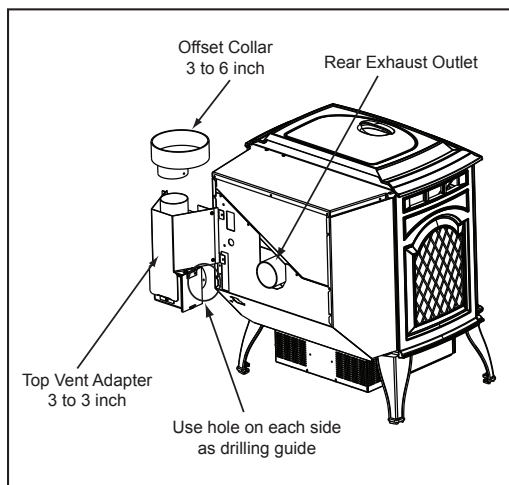

Figure 19.1
1. Put a layer of high temperature silicone on the 3 inch (76mm) rear exhaust outlet. **Do not put silicone inside of pipe. Figure 19.1**
2. Slide the top vent adapter onto the rear exhaust outlet and adjust the assembly to a vertical position. **Figure 19.1.**
3. Drill 4 holes with #26 drill bit (provided) into the back of the appliance using the outer shield as a pattern (make sure the assembly is vertical). **Figure 19.1.**
1. Put a layer of high temperature silicone on the 3 inch (76mm) exhaust outlet. **Do not put silicone inside of pipe. Figure 19.1**